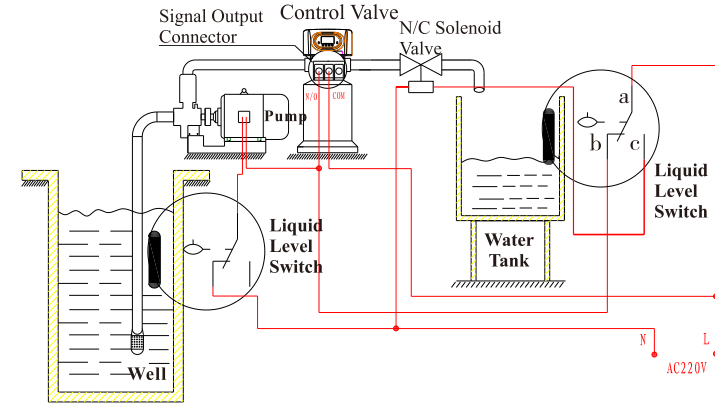

Figure 3-5 Wiring of Liquid Level Controlling Inlet Pump
**Instruction:** For the system using underground water or middle-tank supplying water, users can turn on and turn off the pump by operating the switch of liquid level controller and control valve. The wiring refers to Figure 3-5: